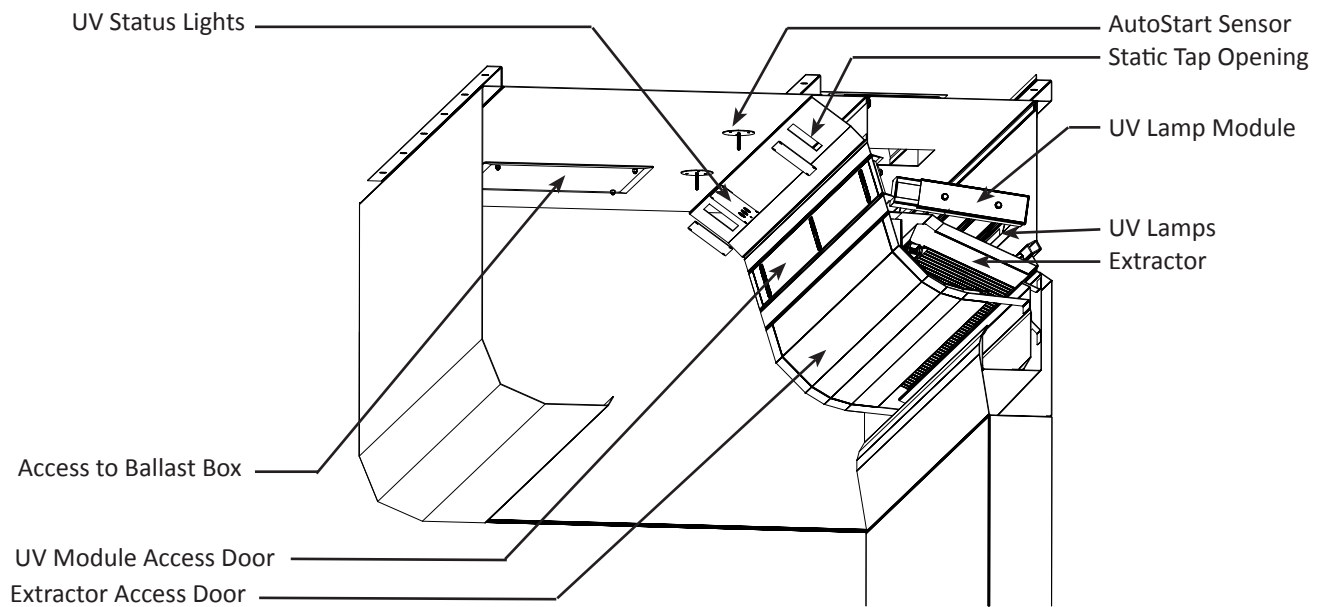

Figure 5-9-1
3. Open the UV Module Access Door (Refer to Figure 5-9-1).
5. Carefully slide out the UV Module (refer to Figure 5-9-1).